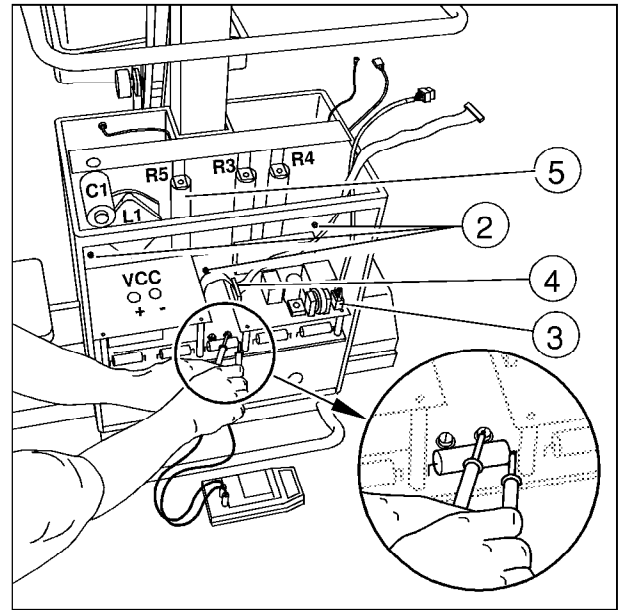

Fig. 11
- Measure the actual voltage present in the capacitor bank with the DVM at test point - VCC and +VCC on the inverter board D960 or (more accessible) on the capacitor board D970 at the + connecting point of the C3 capacitor and on the right-hand side of fuse F3 (see Fig. 11).
- Unscrew the three Allen screws (2/ Fig. 11).
- Pull out the jumpers X3 and X9 (3/ Fig. 11) on the charging board D950.
- Remove flat ribbon cable X20 (4/ Fig. 11) from the inverter board D960 and from the charging board D950.
In this case, discharge the affected capacitor with the discharging resistor R5 (5/ Fig. 11) .